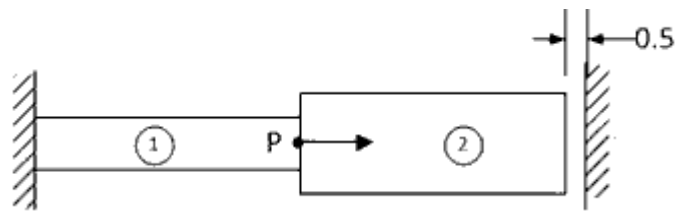

Figure 3
- Q.3 (a) Consider the bar shown in Figure 3. Determine the nodal displacement using penalty approach. Take: $A_1 = 200 \text{ mm}^2$, $A_2 = 300 \text{ mm}^2$, $l_1 = l_2 = 350 \text{ mm}$, $E_1 = 80 \text{ GPa}$, $E_2 = 200 \text{ GPa}$, $P = 60 \text{ kN}$. 07